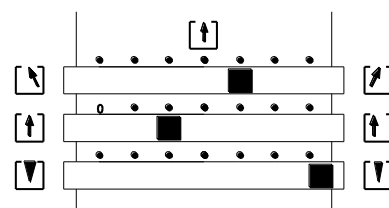

Fig. 28 Setting illumination control on transmitted-light equipment
- Connect the light guide for transmitted light (TL) to the cold-light source.
- Turn on the cold-light source for transmitted light (TL) at the toggle switch (position I).
- Select the desired technique via the illumination control on the transmitted-light equipment (Fig. 28). Use intermediate positions to optimize the contrast by oblique light.